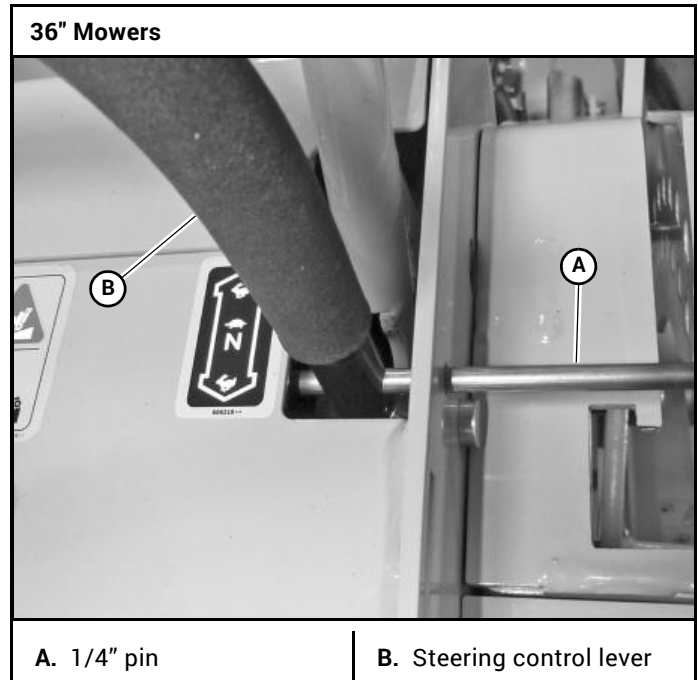
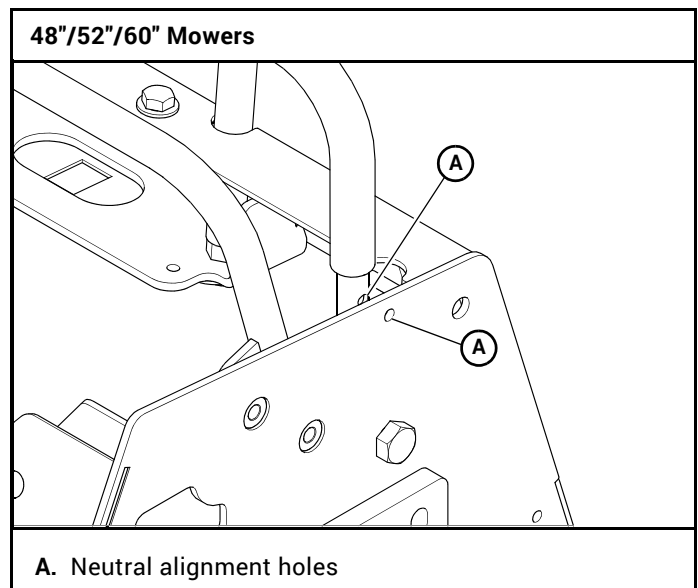

Figure 4-1
Figure 4-2
3. Insert a 1/4" pin through the opening in the mower frame and into the steering control lever. This ensures that the steering control lever is in the neutral position. Figure 4-1 & Figure 4-2
3. Loosen the nut on the steering control lever and slide the cap screw up and down to align the end of it with the target circle as shown. Tighten nut. Figure 4-1, Figure 4-10, & Figure 4-11